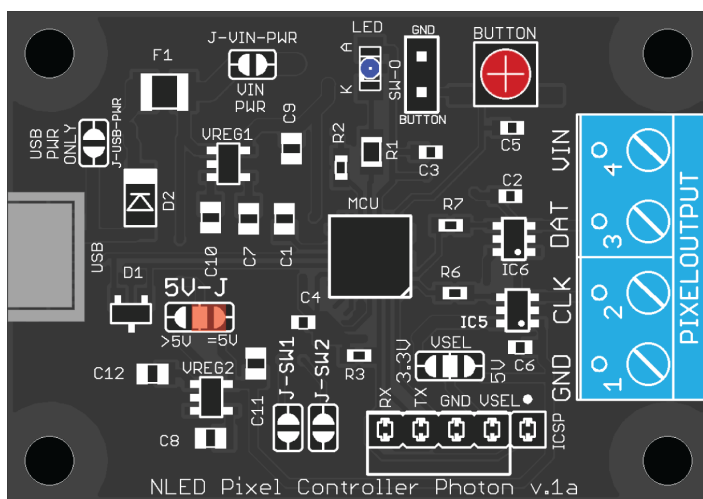

Fig. 15c
3. Power controller with USB, power pixels with external power supply: Close 5V-J to '=5V'. Leave J-VIN-PWR and J-USB-PWR open. See Fig. 15c